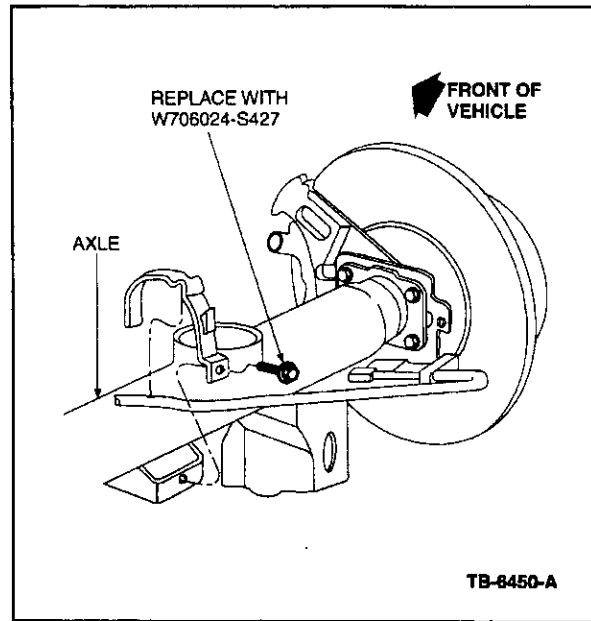

Figure 1 - Article 01-21-14
1. On 1992-1997 vehicles, replace Park Brake Cable to Axle attaching hex head bolt part N806900-S2 with round-headed fastener part W706024-S427. Model year 1998 and later vehicles are of a different design and do not use this bolt (Figure 1).